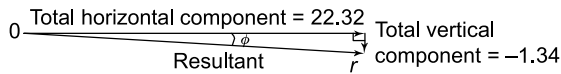

Figure 5.25
- Sketch the total horizontal and vertical components as shown in Figure 5.25. The resultant of the two components is given by length $0r$ and, by Pythagoras' theorem,